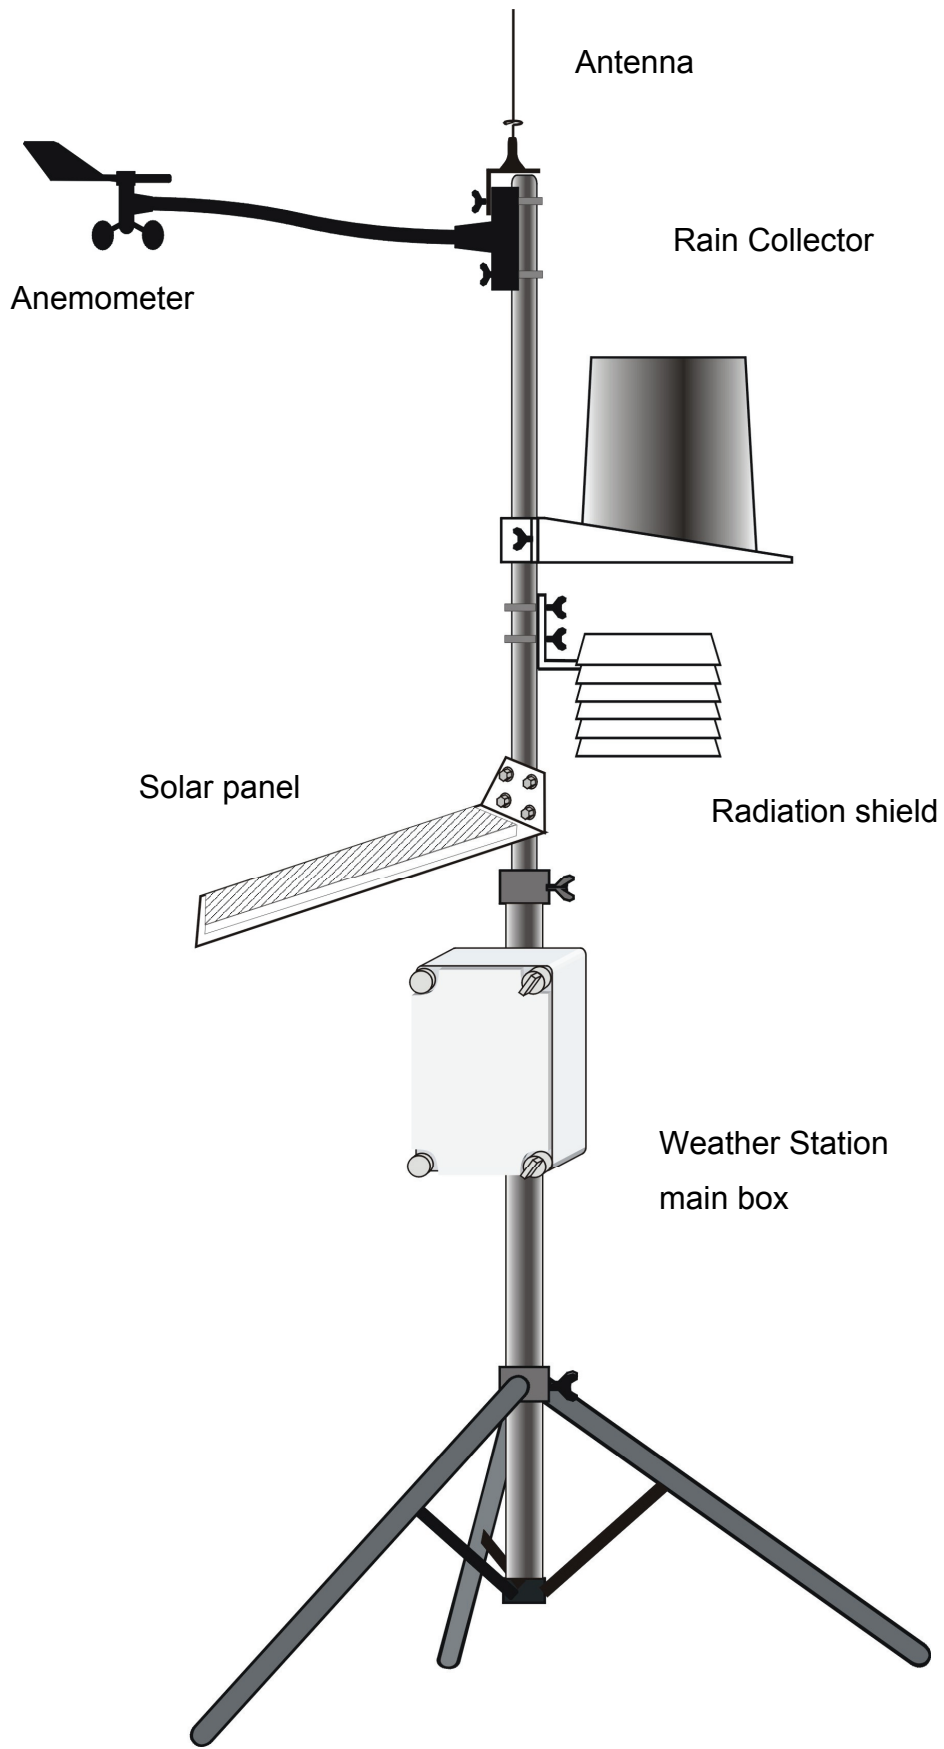

Figure 16: Mounting the Weather Station
- C. Position the anemometer so that it will face the same direction as the solar panel (see section 3.2.9 on page 14 and Figure 16), then fasten the wing nuts tightly
2. Position the solar panel about 3cm above the lower end of the extension tube (see Figure 16 on page 13) and tighten the four wing nuts.
Install the radiation shield so it sits opposite and above the solar panel (see Figure 16 on page 13)
Install the rain collector above the radiation shield (see Figure 16 on page 13):
Place the magnet antenna on top of the antenna shelf (see Figure 16 on page 13)
1. Mount the Weather Station main box about 5cm beneath the top of the base tube (see Figure 16 on page 13) so it sits under the radiation shield